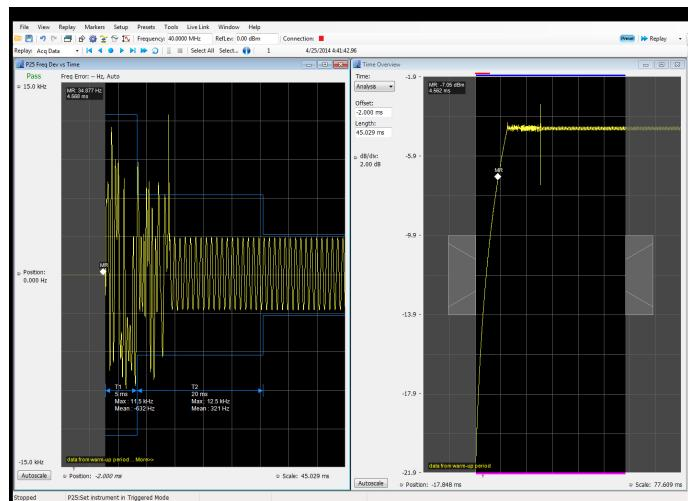
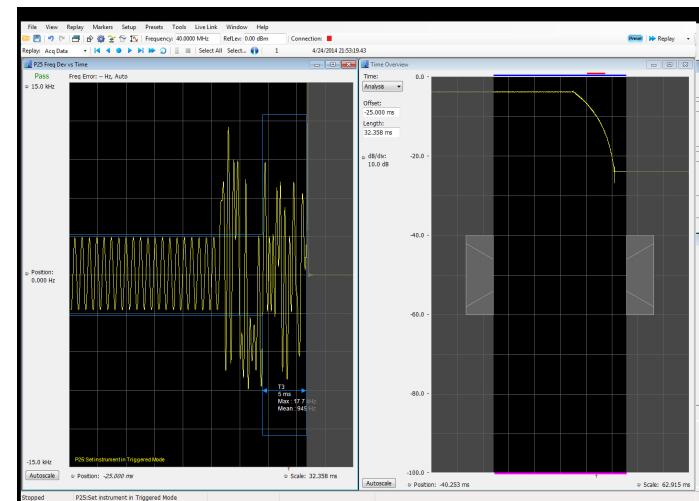

Figure 21. Transient Frequency Behavior OFF to ON displays.
Figure 22. Transient Frequency Behavior ON to OFF displays.
- Result:** The result is displayed in the P25 Freq Dev vs Time display at the time of the measurement as shown in Figure 21 for OFF to ON and Figure 22 for ON to OFF. Pass/Fail information is provided at the top left corner to the display.